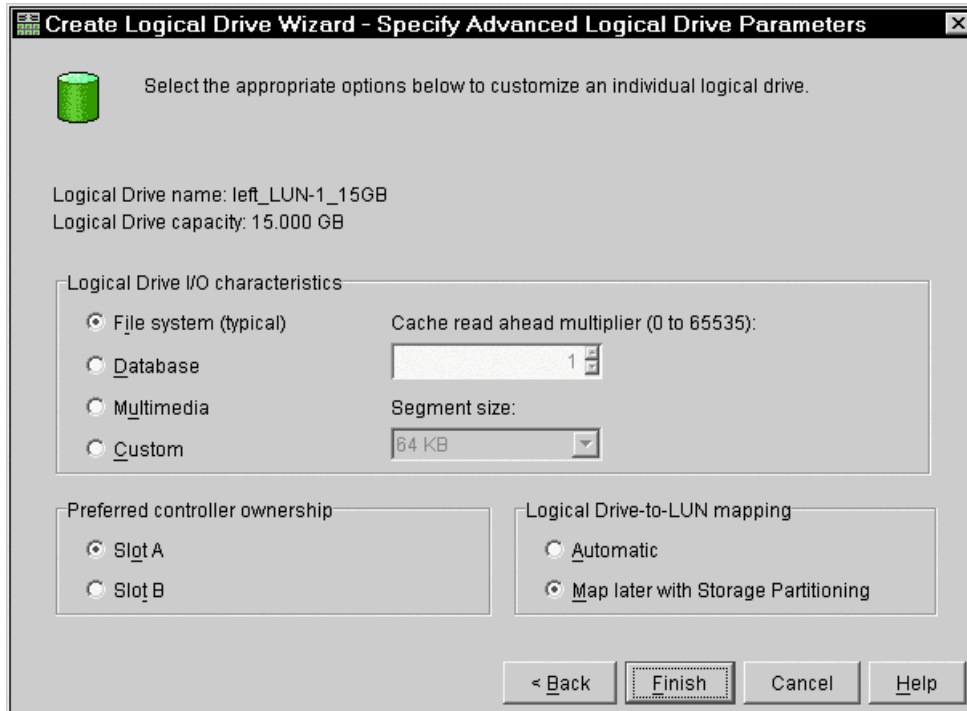

Figure 4-35 Advanced logical drive settings
5. On the Specify Advanced Logical Drive Parameters panel (Figure 4-35), you define the logical drive exactly to suit your needs: